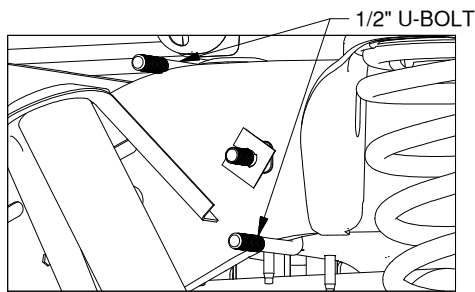
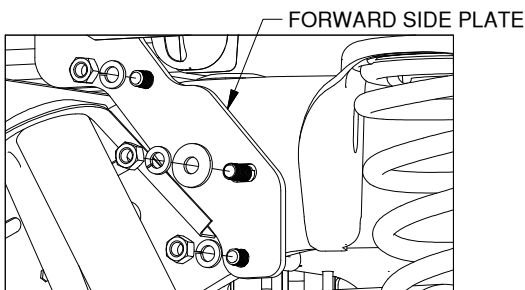

Figure F5: View looking into driver side wheel well.
Figure F6: View looking into driver side wheel well.
3. **Install the front side plates.** Locate the 1/2" U-bolt. On the driver side of the frame, near the rectangle hole where the carriage bolt is installed, pass the U-bolt up in between the fuel tank and the frame so that the threaded ends of the U-bolt are towards the rear of the truck. Make sure there are no brake lines, wiring, or tubing between the U-bolt and the frame. When the leg of the U-bolt is past the top of the frame rotate the legs of the U-bolt towards the outside of the frame, as shown in Figure F5. Locate the driver side front side plate. Orient the side plate so the flange is up and towards the truck. Angle the flange between the frame and the bed. Align the side plate so that the U-bolt and the 1/2" carriage bolt in the frame pass through the holes in the side plate. Attach the side plate to the frame with 1/2" flat washers, lock washers, and nuts, as shown in Figure F6. Align the side plate so the slot in the flange is centered front to back in the 9/16" hole in the bed. While pushing the side plate up against the bottom of the truck bed, hand tighten the three nuts. Repeat steps for the passenger side of the frame.